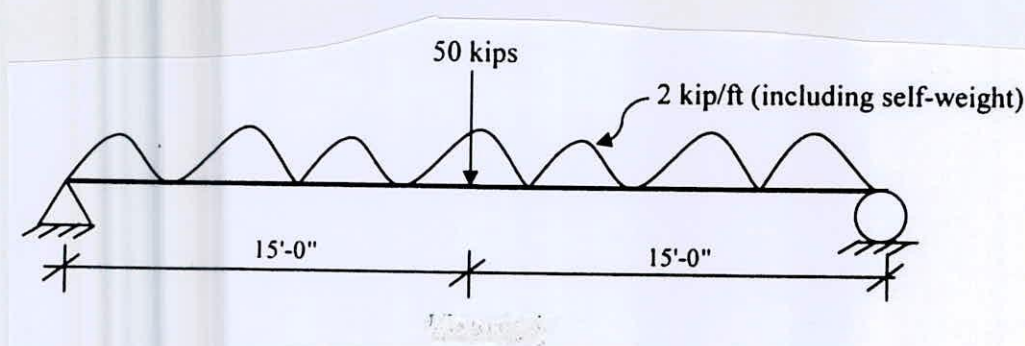

Figure: 4
5. (a) Design the shear reinforcement for the beam shown in Fig. 4. All loads are factored. Calculate with 3 sets of spacings. Width of the beam is 12" and effective depth is 24".